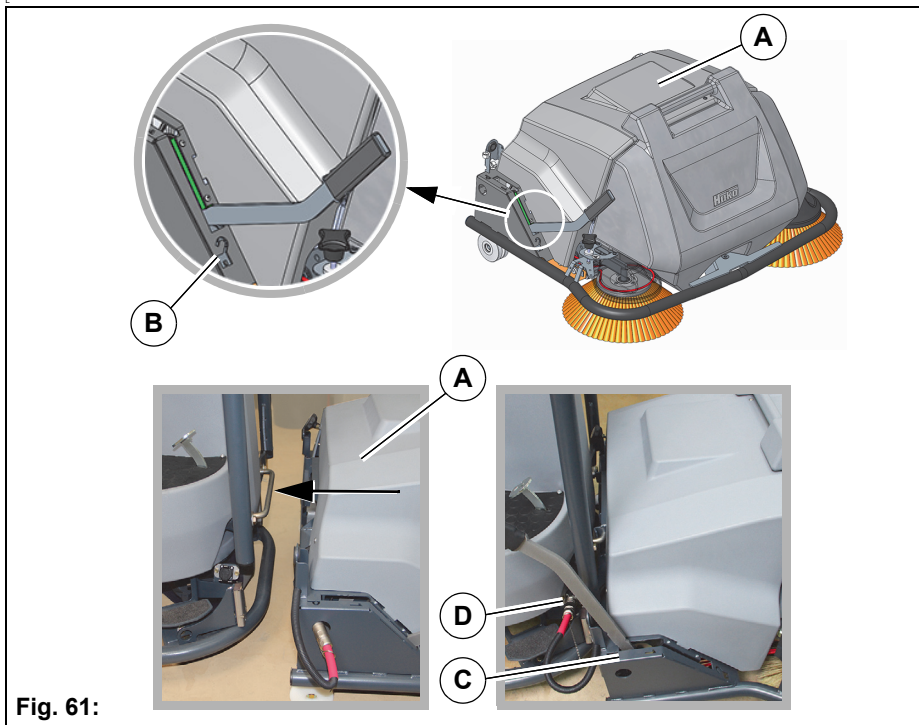

Fig. 61:
1. Slide the pre-sweep suction unit **Fig. 61-A** as far as the swivel bracket on the machine in a central position. The lever is in the change position **Fig. 61-B**.
2. Move lever to position *P* **Fig. 61-C**.
3. Insert the plug into the socket at the front right of the machine and secure with the knurled nut **Fig. 61-D**.
If the pre-sweep suction unit is attached to the machine and the lever is in the sweeping position (Pos. 1) **Fig. 61-A**, the frame must be aligned parallel to the floor.
2. Unscrew the swivel bracket **Fig. 61-B** from the machine. The tilt angle of the frame is determined by adding or removing the washers **Fig. 61-C**. The following applies: the more the washers are used, the more the frame will tilt downwards at the front.